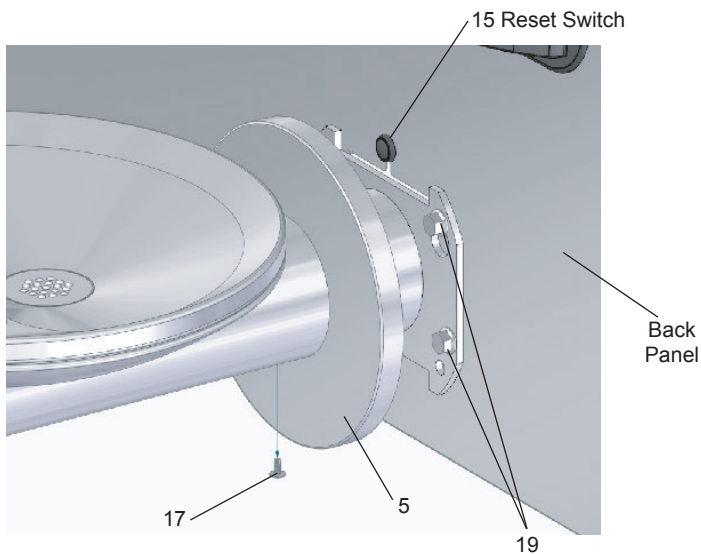

Figure 5 - Fountain Installation
7. **Install** reset switch for bottle filler (Fig. 5). Snap the switch into position after locating wires through slot. Wrap up the excess cord.
8. **Install** fountains with (8) 5/16-18 HHMS & (8) 5/16-18 nuts (provided) (Fig. 5). Connect the 1/4" water lines from each fountain to the remaining openings on the tee at the remote chiller (cut lines to fit as needed).
- 1) To access the program button, remove #8-32 screw, pull back cover plate on lower fountain arm (Fig. 5). Reset button is located above fountain arm.